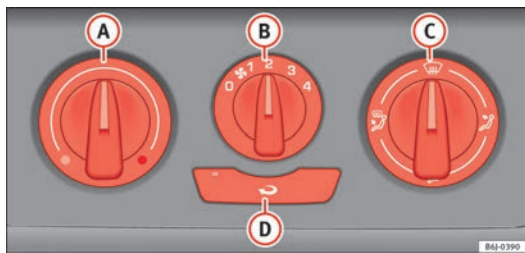

Fig. 105 Heating controls on the dash panel.
- Using the controls **A** and **C** and with the switch **B** ⇒ Fig. 105 you can adjust the temperature, the air distribution and the blower speed.